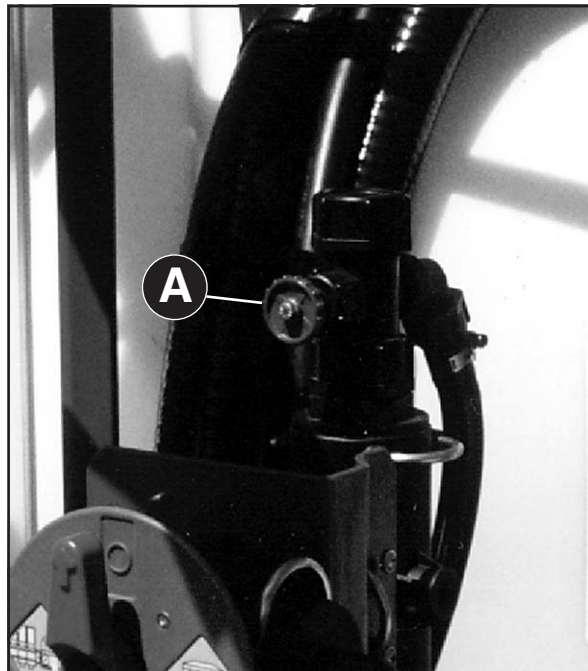

Fig. 17
Turning the agitation valve **(A)** (Fig. 17) clockwise will reduce the agitation flow. Turning the valve counter clockwise will increase the agitation flow.
6. Turn the agitation valve (**A**) (Fig. 17) counter clockwise all the way out for maximum agitation.
6. Turn the agitation valve **(A)** (Fig. 17) counter clockwise all the way out for maximum agitation.
1. Empty the sprayer as much as possible. Turn the agitation valve (**A**) (Fig. 17) clockwise all the way in to close agitation valve and spray until air comes out of all nozzles.
1. Turn the agitation valve **(A)** (Fig. 17) clockwise all the way in to close agitation valve.